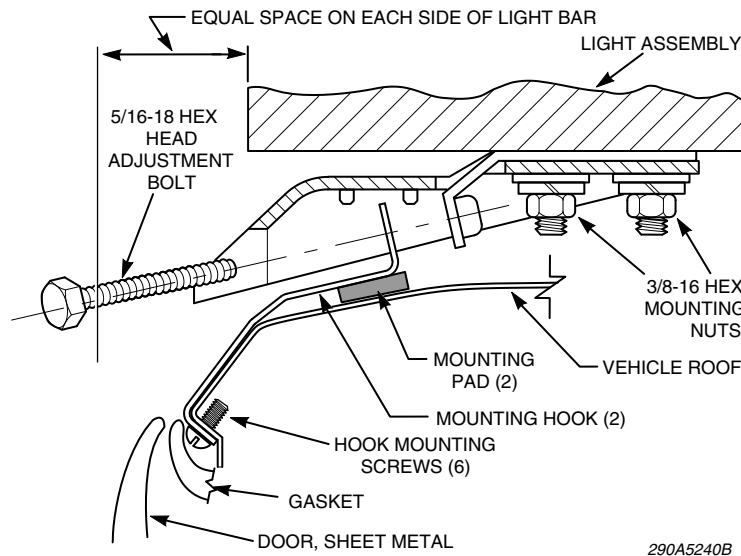

Figure 1: Lightbar attached to vehicle with hook kit
2. Determine where the hook will attach to the vehicle (Figure 1).
3. Place the hook in position on the roof sheet metal as shown in Figure 1.
1. To protect the roof surface, peel the packing from the adhesive mounting pad and attach the pad to the bottom of the hook (Figure 1 on page 2).
2. Secure the hook using three sheet metal screws provided (#10 thread-forming) as shown in Figure 1.